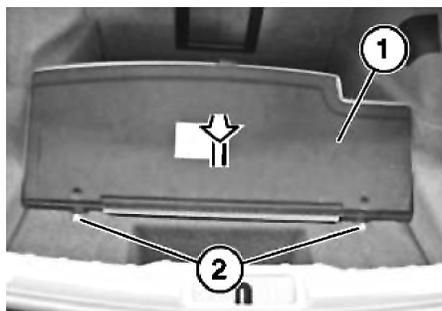

Fig. 1 Luggage compartment floor trim removal
2. Lift up panel (1), remove nuts (2), and remove luggage compartment floor trim panel, **Fig. 1**.